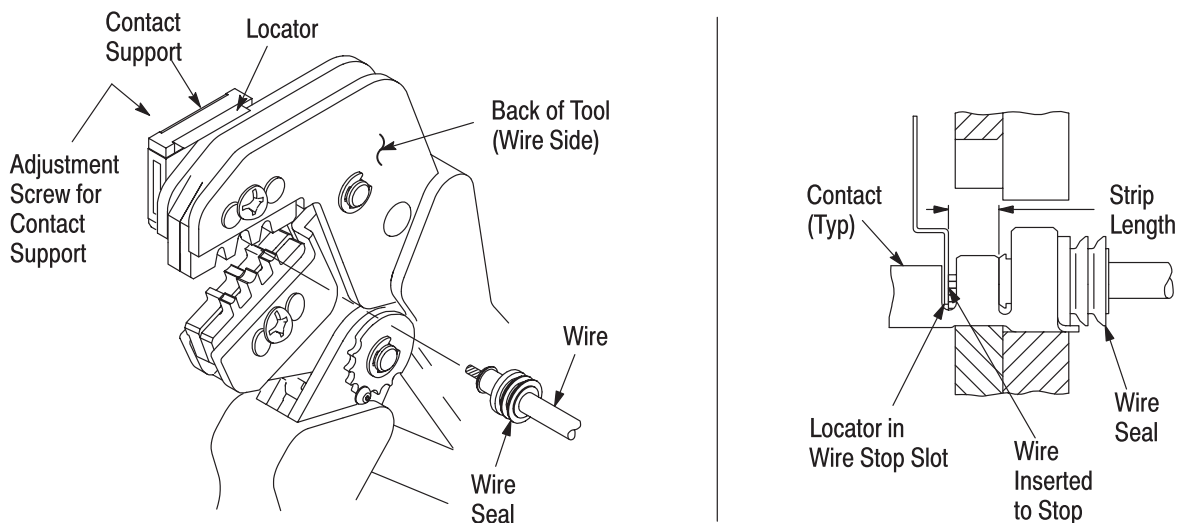

Figure 3
**4. CONTACT SUPPORT ADJUSTMENT** (Figure 3)
Refer to the table in Figure 1 and select wire of the specified size and insulation diameter. Assemble applicable wire seal onto wire according to the instructions packaged with the contact. Strip the wire to the length indicated in Figure 1, taking care not to nick or cut wire strands. Select an applicable contact and identify the appropriate crimping chamber according to the wire size markings on the tool. Refer to Figure 3 and proceed as follows:
3. Position the contact so that the mating end of the contact is on the locator side of the tool, and so that the open “U” of the wire and insulation barrels face the top of the tool. Place the contact up into the nest so that the movable locator drops into the slot in the contact. Refer to Figure 3. Butt the front end of the wire barrel against the movable locator.
5. Insert stripped wire (with wire seal) into contact insulation and wire barrels until it is butted against the wire stop, as shown in Figure 3.
**NOTE** The crimped contact may stick in the crimping area, but the contact can be easily removed by pushing downward on the top of the locator (see Figure 3).